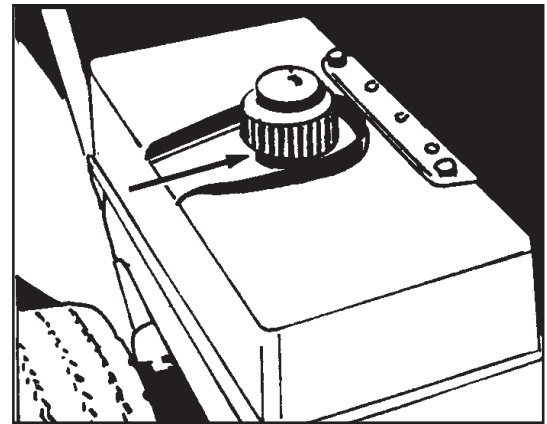

Figure 2
**⚠ WARNING:** Gasoline is very flammable. When filling the gasoline tank, make sure the gasoline does not enter the extension. See figure 2. Make sure you do not spill any gasoline. Use a cloth to remove spilled gas.